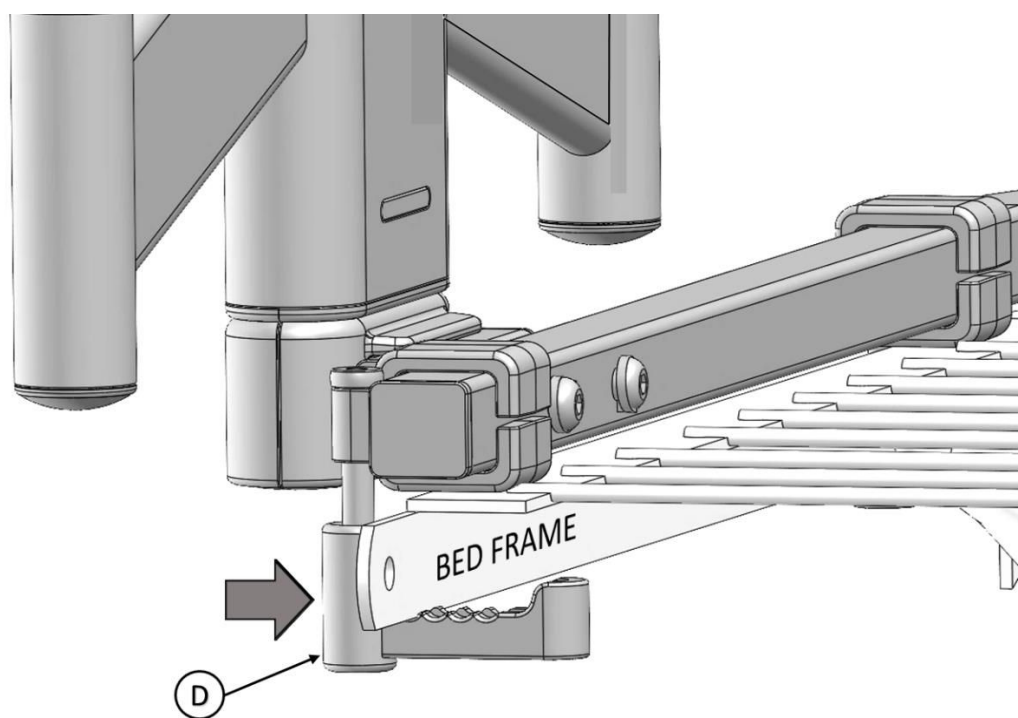

FIGURE 4
4. Place product on the **Bed Frame**, making sure **D** is pressed firmly against the **Frame** as shown in *FIGURE 4*.